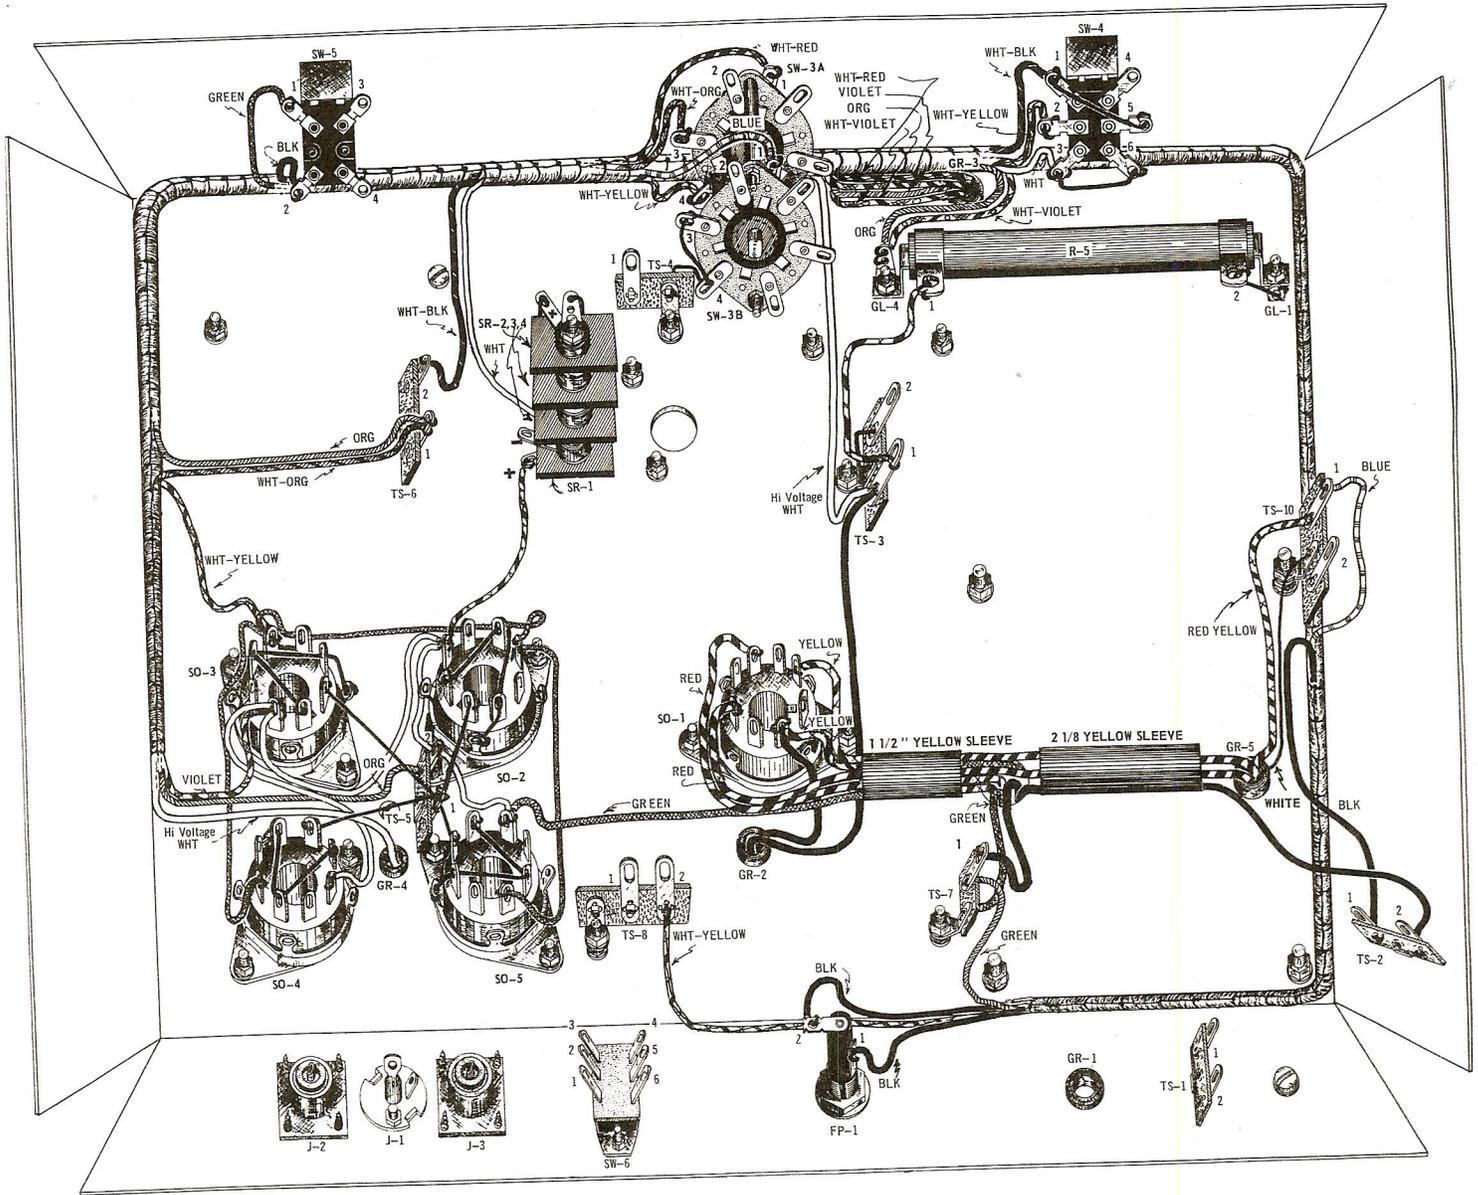
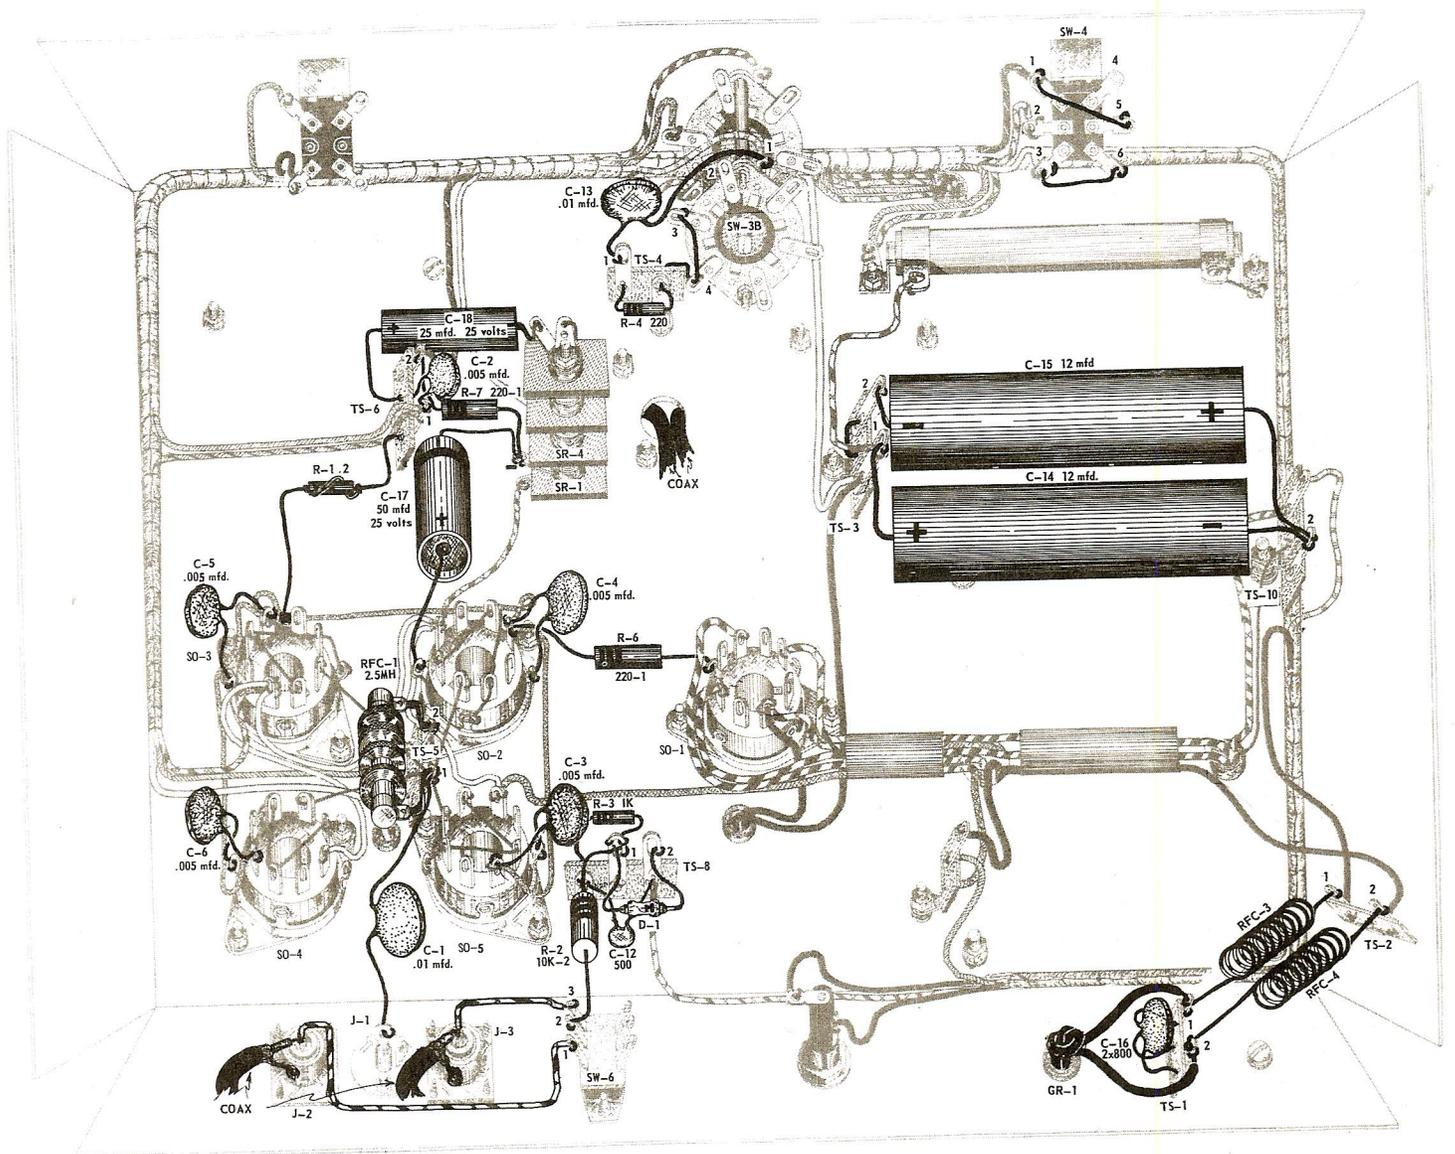
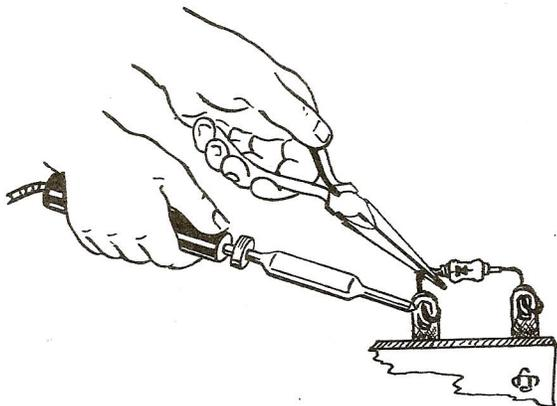
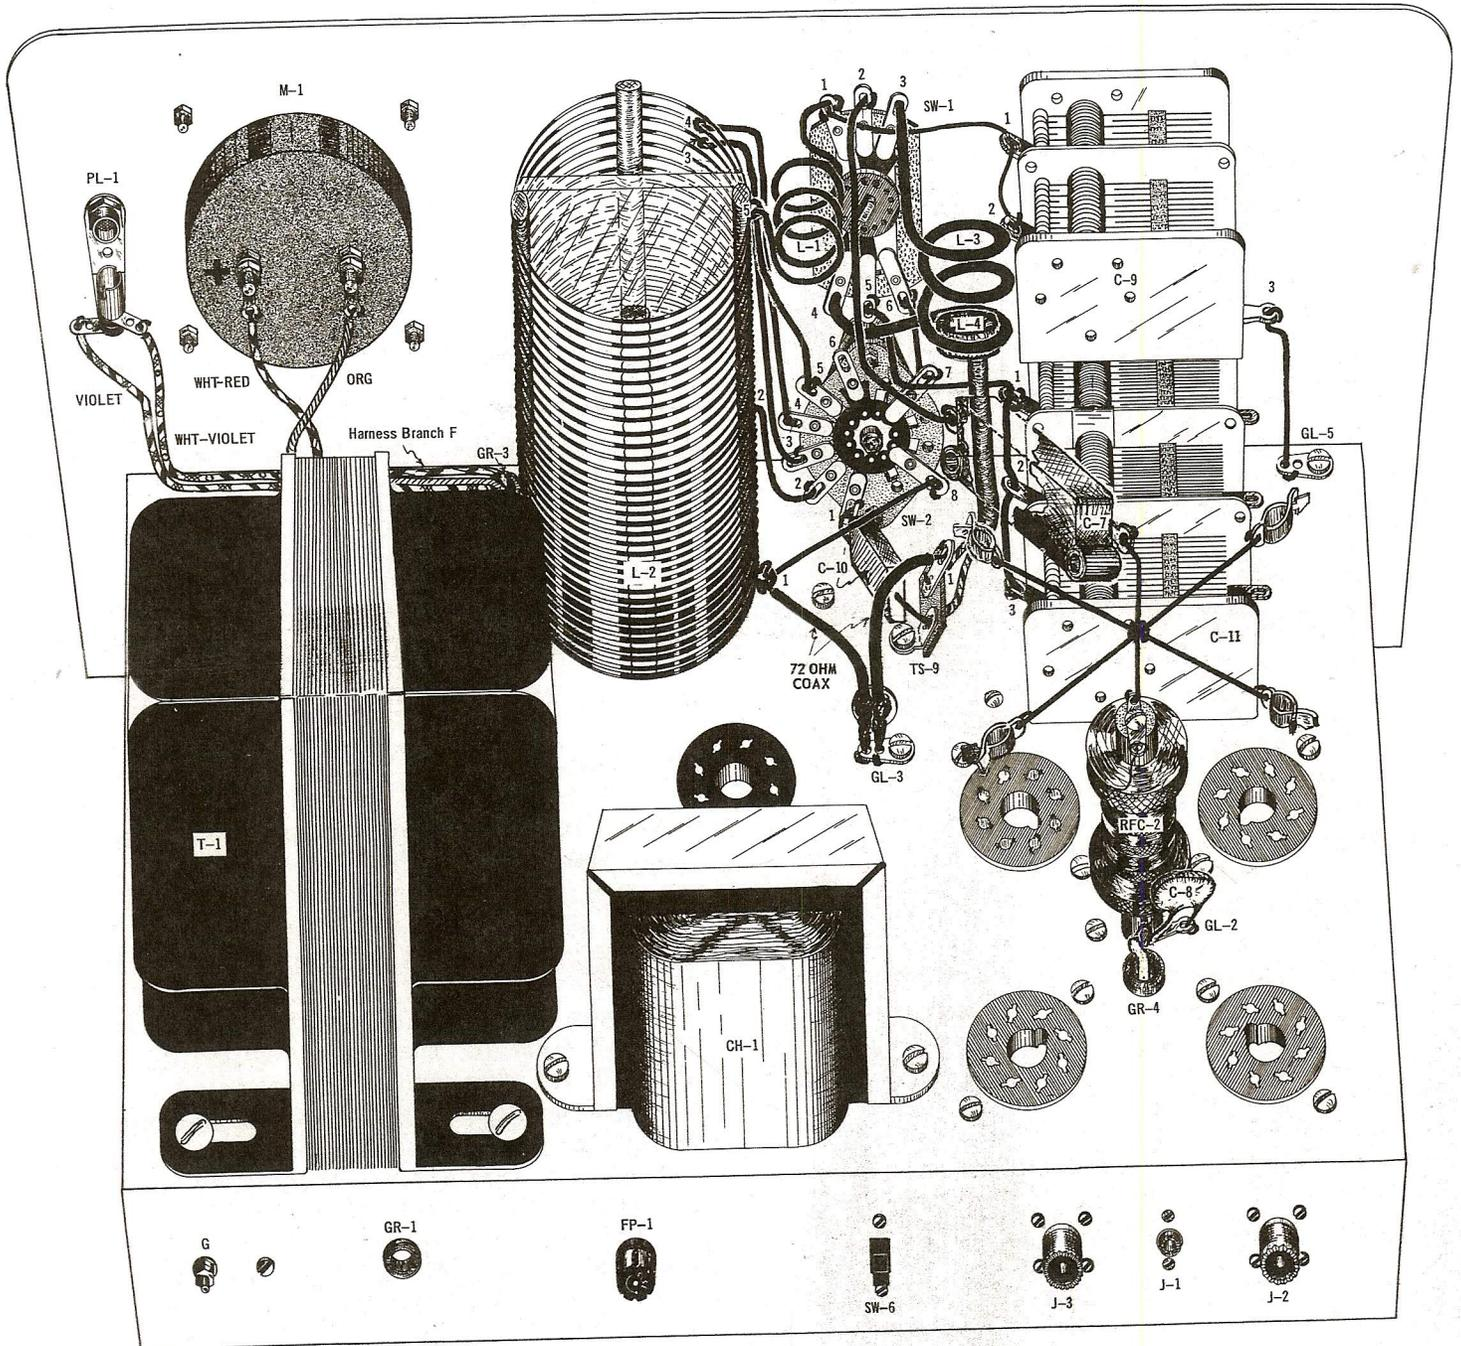

Figure 15. Wiring Steps 1 Through 67.
Figure 17. Wiring Steps 68 Through 100.
Figure 18. Proper Method of Soldering Diode Leads.
Figure 19. Wiring Steps 101 Through 133.
1. Trim, strip and connect one of the black leads of choke CH-1 (emerging from grommet GR-2) to pin 2 of socket SO-1. (NS)
2. Trim, strip and connect the other black lead of CH-1 to lug 1 of tie strip TS-3. (NS)
3. Select one of the green leads of transformer T-1 coming through the 5/8" chassis hole. Trim, strip and connect this lead to the grounding lug hole of tie strip TS-7. (S)
4. Trim, strip and connect one of the black leads of T-1 to lug 1 of tie strip TS-7. (NS)
6. Gather the two red leads and the remaining black lead of T-1. Slip a 2-1/8" length of yellow sleeving over these leads as per Figure 15.
7. Gather both yellow leads, the remaining green lead and the two red leads mentioned in step 6 (all are leads of transformer T-1). Slip a 1-1/2" length of yellow sleeving over these leads as per Figure 15.
8. Trim, strip and connect one of the yellow leads of T-1 to pin 2 of socket SO-1. (S)
9. Trim, strip and connect the other yellow lead of T-1 to pin 8 of SO-1. (S)
10. Connect one red lead of T-1 to pin 6 of SO-1. (S)
11. Trim, strip and connect the other red lead of T-1 to pin 4 of SO-1. (S)
12. Trim, strip and connect the remaining green lead of T-1 to pin 2 of socket SO-5. (NS)
- 15. Lay the harness in the chassis with the long continuous side along the front apron of the chassis. Install the harness in place as per Figure 15. Guide branches G, H and I under switch SW-3. Carefully slide branches E and F under switch SW-3. At the same time guide branches G, H and I around the chassis under tie strips TS-1 and TS-2.
- 17. Trim, strip and connect the white/yellow lead of branch I to lug 2 of tie strip TS-8. (NS)
- 18. Trim, strip and connect one of the black leads of branch H to lug 1 of the fuse retainer post FP-1. (S)
- 19. Trim, strip and connect the other black lead of branch H to lug 2 of FP-1. (S)
- 21. Trim, strip and connect the remaining black lead of transformer T-1 to lug 2 of tie strip TS-2. (NS)
- 34. Trim, strip and connect the blue lead of branch D to lug 1, rear wafer (SW-3B), of SW-3. (NS)
- 35. Trim, strip and connect the white lead of branch C to the positive (+) lug of selenium rectifier SR-4. (NS)
- 36. Trim, strip and connect the white/black lead of branch C to lug 2 of tie strip TS-6. (NS)
- 37. Trim, strip and connect the heavy green lead of branch C to lug 1 of switch SW-5. (S)
- 38. Trim, strip and connect the black lead of branch C to lug 2 of SW-5. (S)
- 39. Trim, strip and connect the orange lead of branch B to lug 1 of tie strip TS-6. (NS)
- 40. Trim, strip and connect the white/orange lead of branch B to lug 1 of TS-6. (NS)
- 41. Trim, strip and connect the white/yellow lead of branch B to pin 5 of socket SO-3. (NS)
- 42. Trim, strip and connect the violet lead of branch A to pin 2 of SO-3. (NS)
- 43. Trim, strip and connect the orange lead of branch A to lug 2 of tie strip TS-5. (NS)
- 44. Route the heavy white lead of branch A to the right between sockets SO-3 and SO-4 and up through grommet GR-4. Trim, strip and connect the lead to the bottom lug of R.F. choke RFC-2. Refer to Figures 15 and 19.
- 45. Locate the white/violet and violet leads on the top side of the chassis. The leads emerge from grommet GR-3. (Harness branch E). See Figure 19.
- (c) Connect the white/violet lead to one terminal of pilot light assembly PL-1. (S)
- (d) Connect the violet lead to the other terminal of pilot light assembly PL-1. (S)